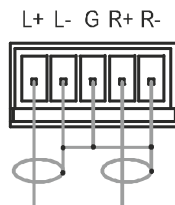

Figure 4: Unbalanced Stereo Audio Input Connection
- An unbalanced stereo audio input connection, see Figure 4